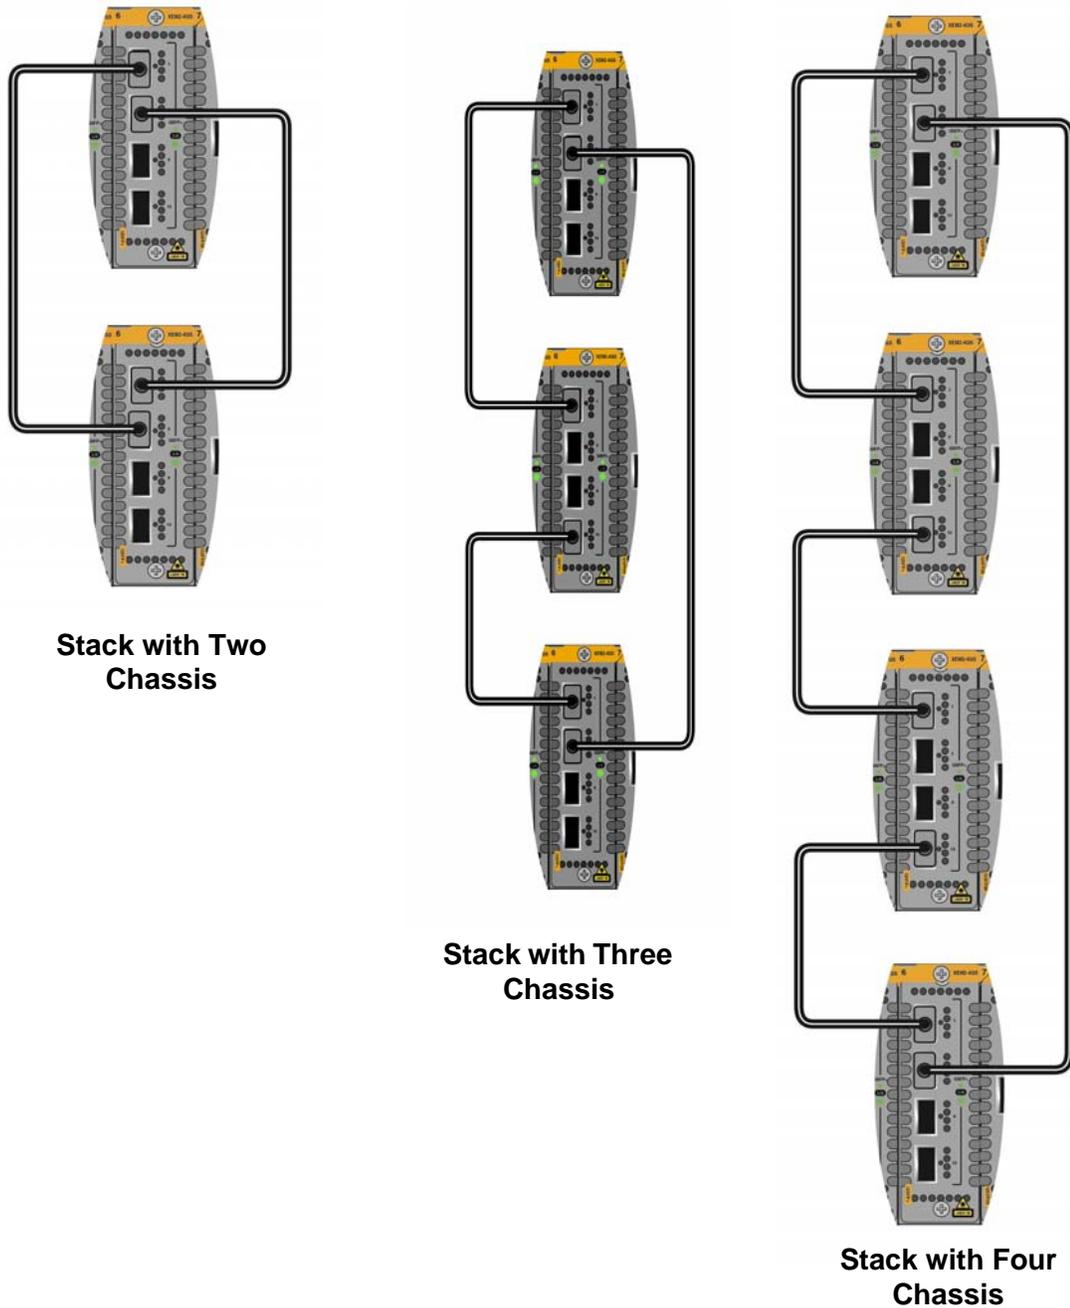

Figure 15. Example Trunks for Stacks of Two, Three, or Four Switches
- ❑ Figure 15 on page 53 illustrates the basic trunk configurations for stacks of two, three, or four switches. The example shows the XEM2-4QS Line Card, but the topology is the same for all line cards.